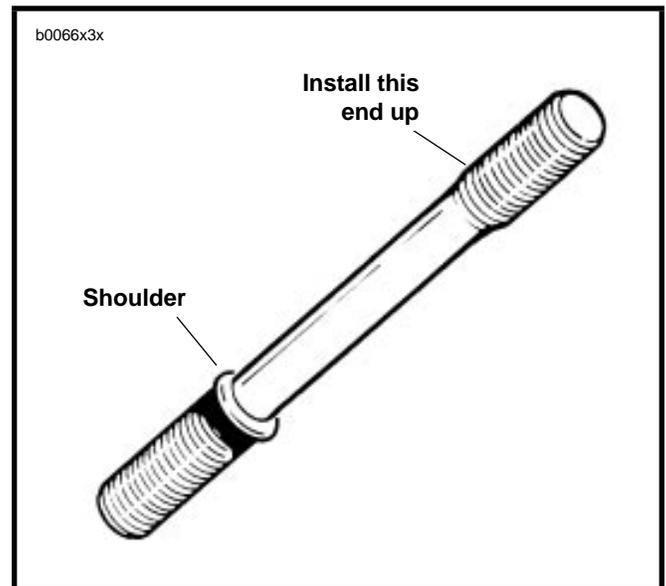

Figure 3-93. Cylinder Studs
17. See Figure 3-93. The cylinder studs have a shoulder at the lower end.